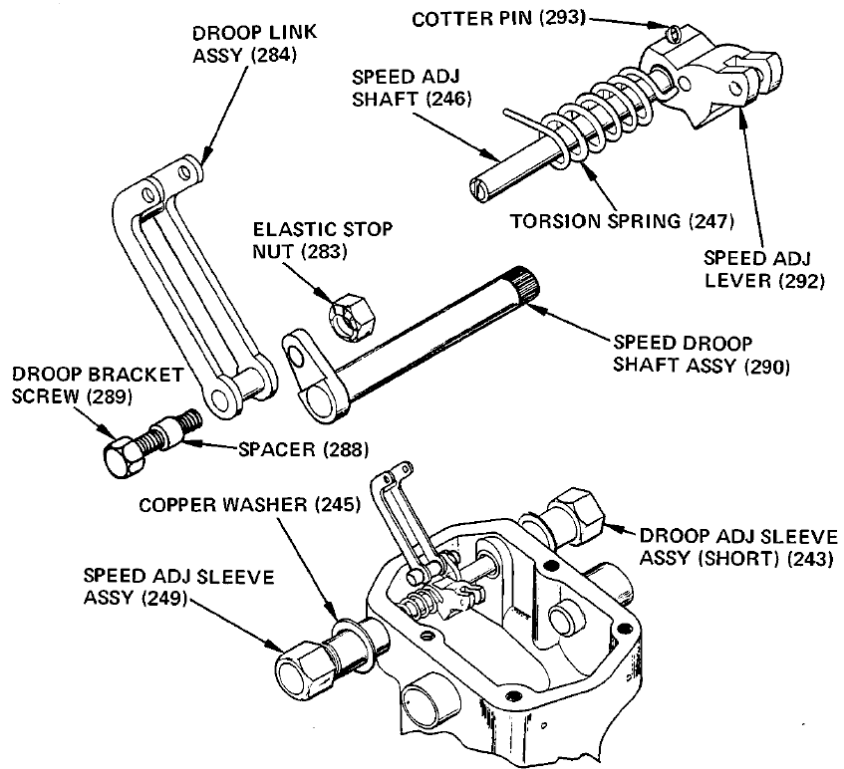

Figure 5-19. Right Hand External Droop Assembly
Figures 5-19 and 5-20 illustrate the assembly of right and left hand droop linkages respectively.
Assemble speed droop shaft (290) to droop link (284) with screw (289), spacer (288), and nut (283). Be sure droop link (284) pivots freely after nut (283) is tight. Place torsion spring (247) on speed adjusting shaft (246). Insert speed adjusting shaft assembly into case along with droop shaft assembly as shown in Figure 5-19 or 5-20. Fit copper washer (245) on each sleeve and thread them into the case to secure the shafts. Tighten sleeves (243 and 249) with a torque wrench to 30 lb-ft (41 N·m).